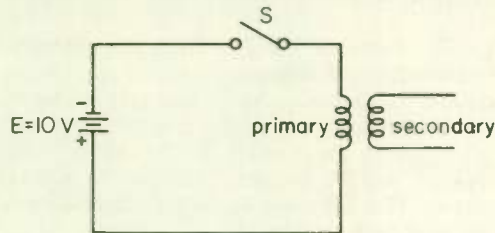

Fig. 25
3. Figure 25 shows two coils not wound on the same form, and they are separated by a short distance. When switch S is closed, will there be any voltage induced in the secondary? (yes) (no) Why? _____